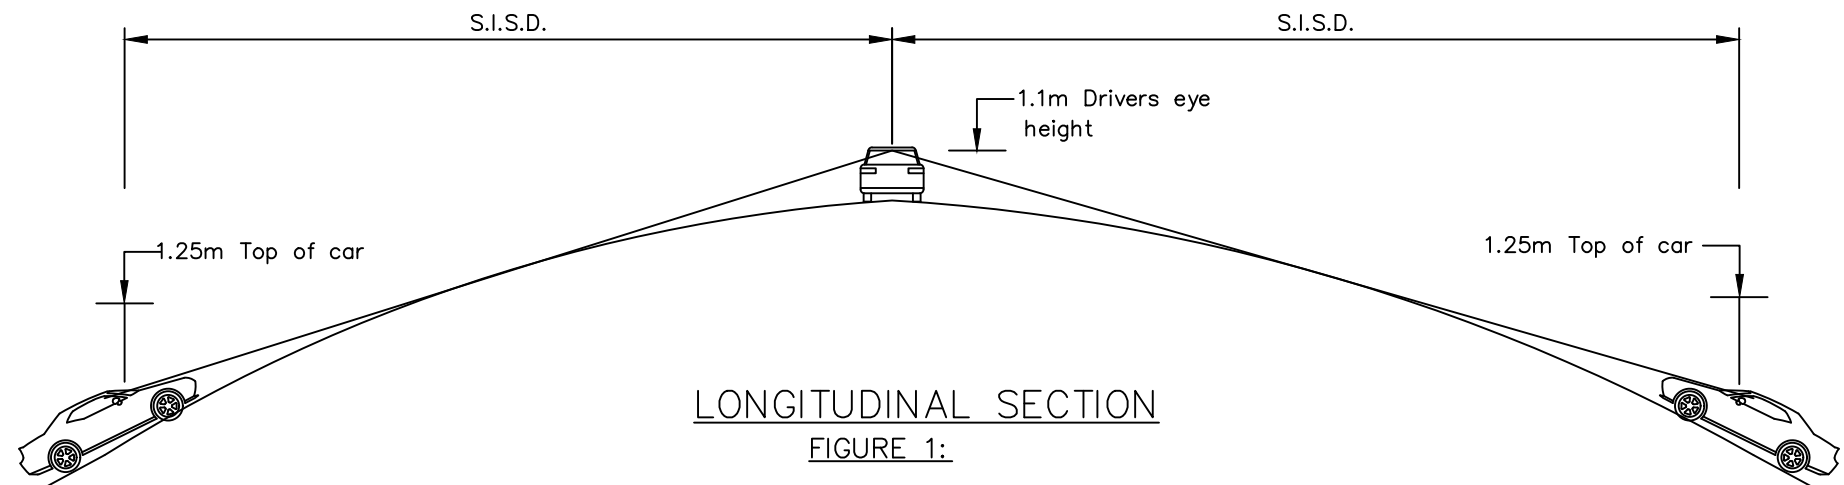

FIGURE 1:
- Is viewed between two points to provide inter-visibility between drivers and vehicles on the major road and minor road approaches. It is measured from a driver eye height of 1.1m above the road to points 1.25m above the road which represents drivers seeing the upper part of cars as illustrated on Figure 1.